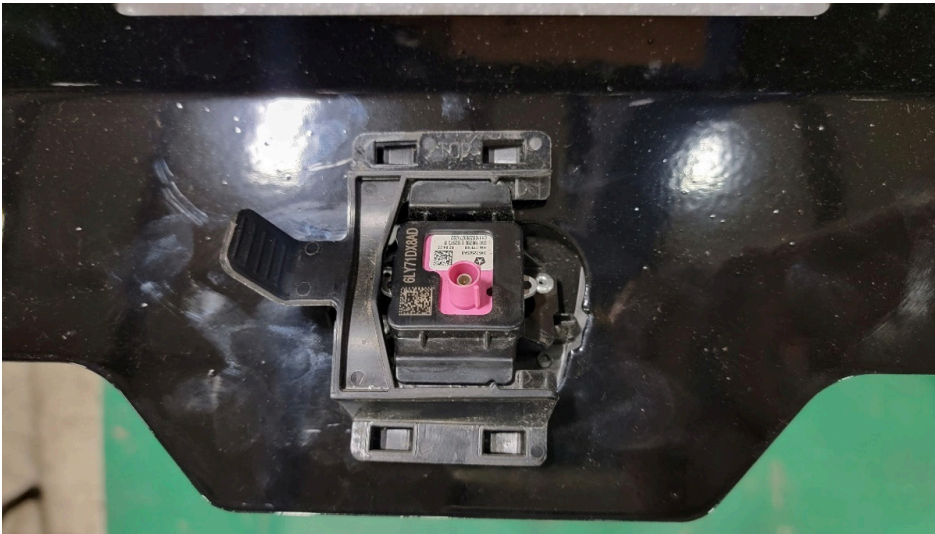

Figure 19
20. If equipped, install the factor reverse camera into the winch cover plate (22783). Figure 19.